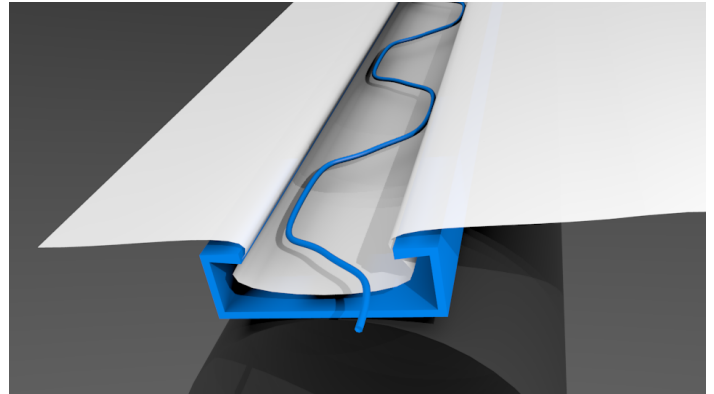

Fig 8.1 Wire Lock / Film Installation
- Lay film over the Wire Lock channel, and fasten the plastic into the channel by placing the wiggle wire into the channel on top of the plastic (Fig 8.1).